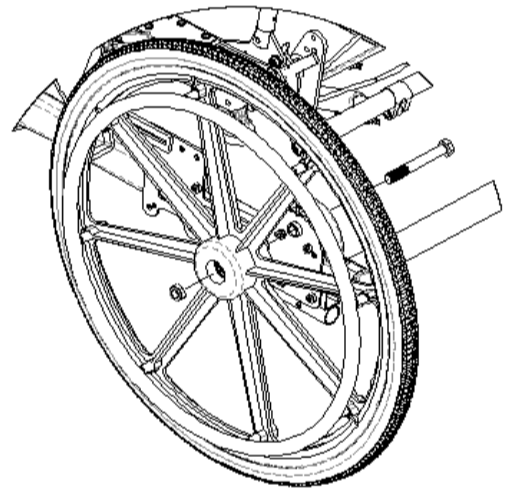

Figure 16.28: Removing rear wheels fastened with axle bolt.
1. If the wheelchair is fitted with fixed axles, the rear wheels can be removed using a $\frac{3}{4}$ " socket head and a $\frac{3}{4}$ " crescent wrench or equivalent (see Figure 16.28). The axle bolt heads must be located on the inside of the frame with the nuts located on the outside of the rear wheel hubs. If axle bolts are installed backwards, the upper frame may hit the end of the axle bolts when attempting to tilt the chair. During assembly, tighten the axle bolts so that the rear wheels are snug but not so much that the wheels are unable to spin freely.